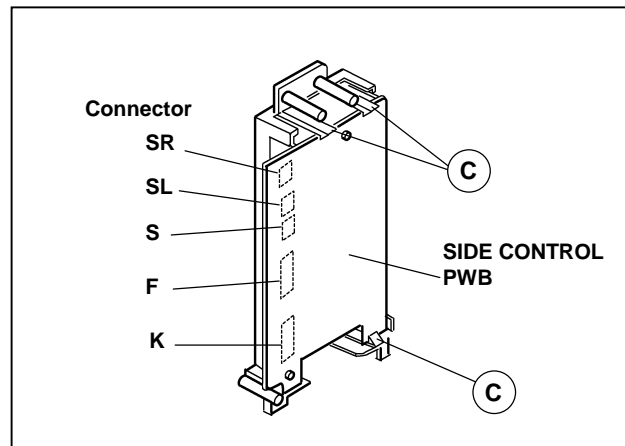

Fig. 2
3. Disconnect the connector "SR", "SL", "S", "F" and "K" as shown in Fig 2.
1. Remove the 3 claws "C" from back side of the side control jack assembly as shown in Fig.2.